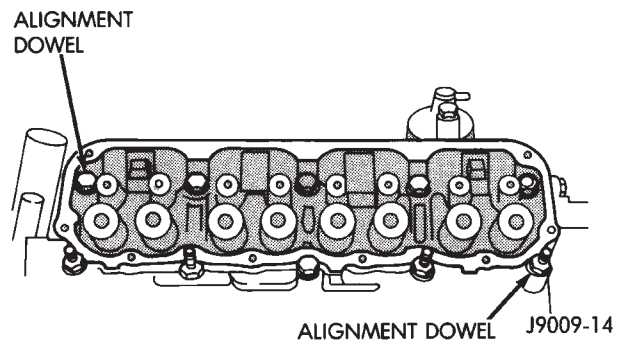

Fig. 5 Alignment Dowel Locations
(2) Install one dowel in bolt hole No.10 and the other dowel in bolt hole No.8 (Fig. 5).